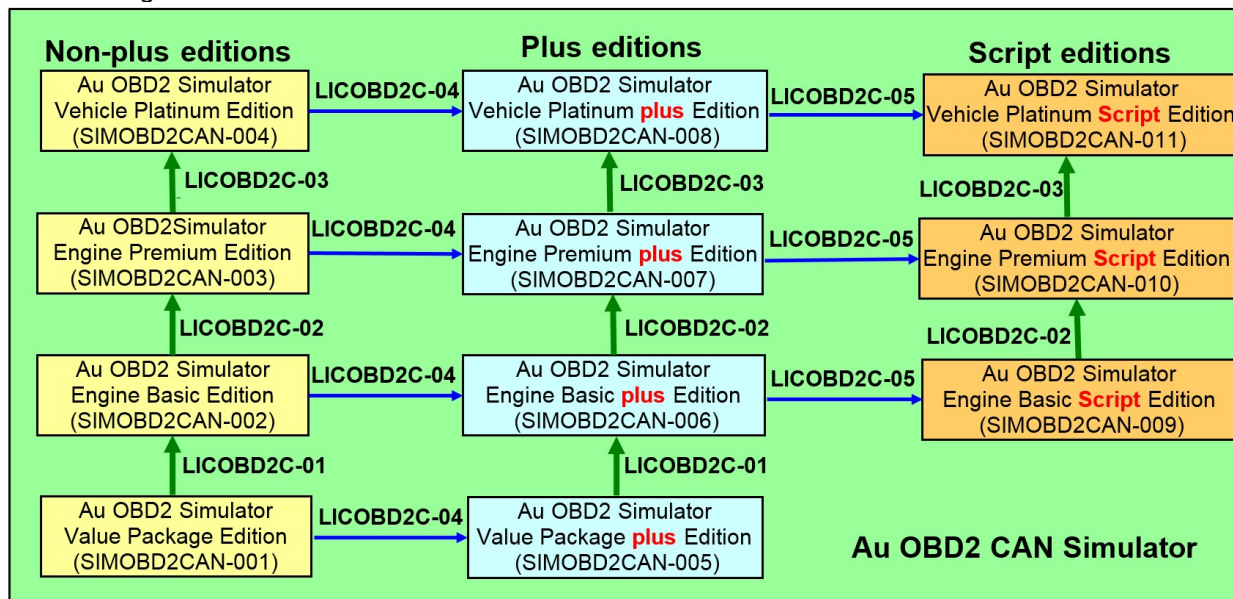

Figure 1 - 7
- 1 DB9 Male "BUS" Interface: For power supply and CAN/OBD2 CAN network connection (Figure 1 – 2)
- 1 RS232 interface: for CAN baud rate setting, Source address configuration, in-field firmware update, license management, and computer remote control (for **Plus** editions and **script** editions) (Figure 1 – 3).
Part numbers for license upgrading and annual service for the 11 editions of Au SAE OBD2 CAN Simulator are summarized in Figure 1 - 7.